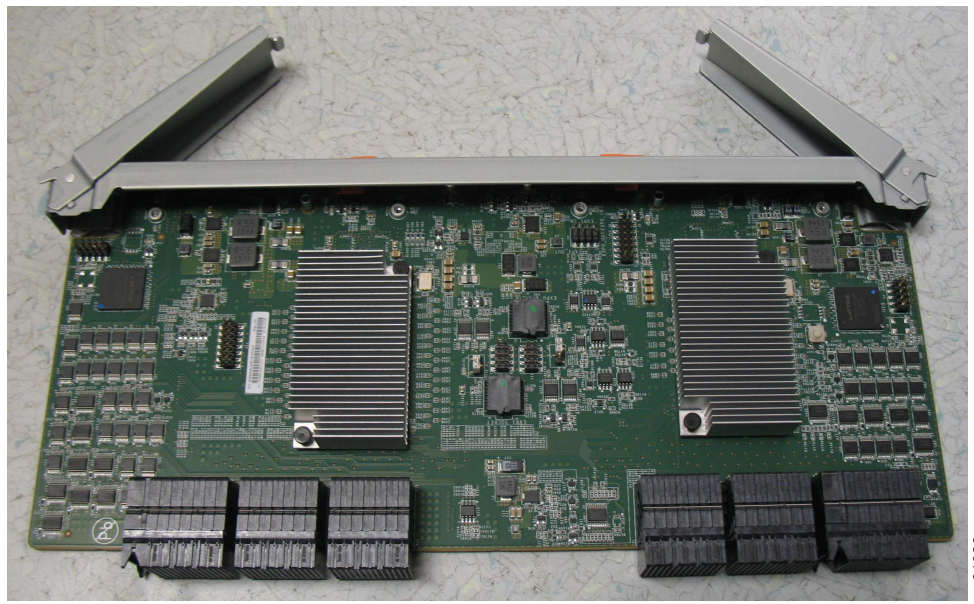

Figure 95. Secondary expander module removed from the enclosure
5. Place the secondary expander module in a safe location, as shown in Figure 95.